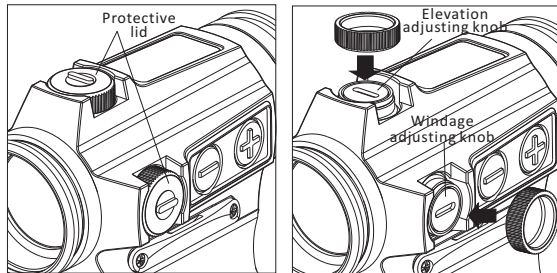

Fig 5
2. The built in screw driver tool on the protective cap can be used for zeroing adjustment (see Fig5). See label inside cap.
1. On top of sight is the elevation adjusting turret, windage adjusting turret is on the right side (see Fig5). The sight has been factory adjusted for approximate zero.